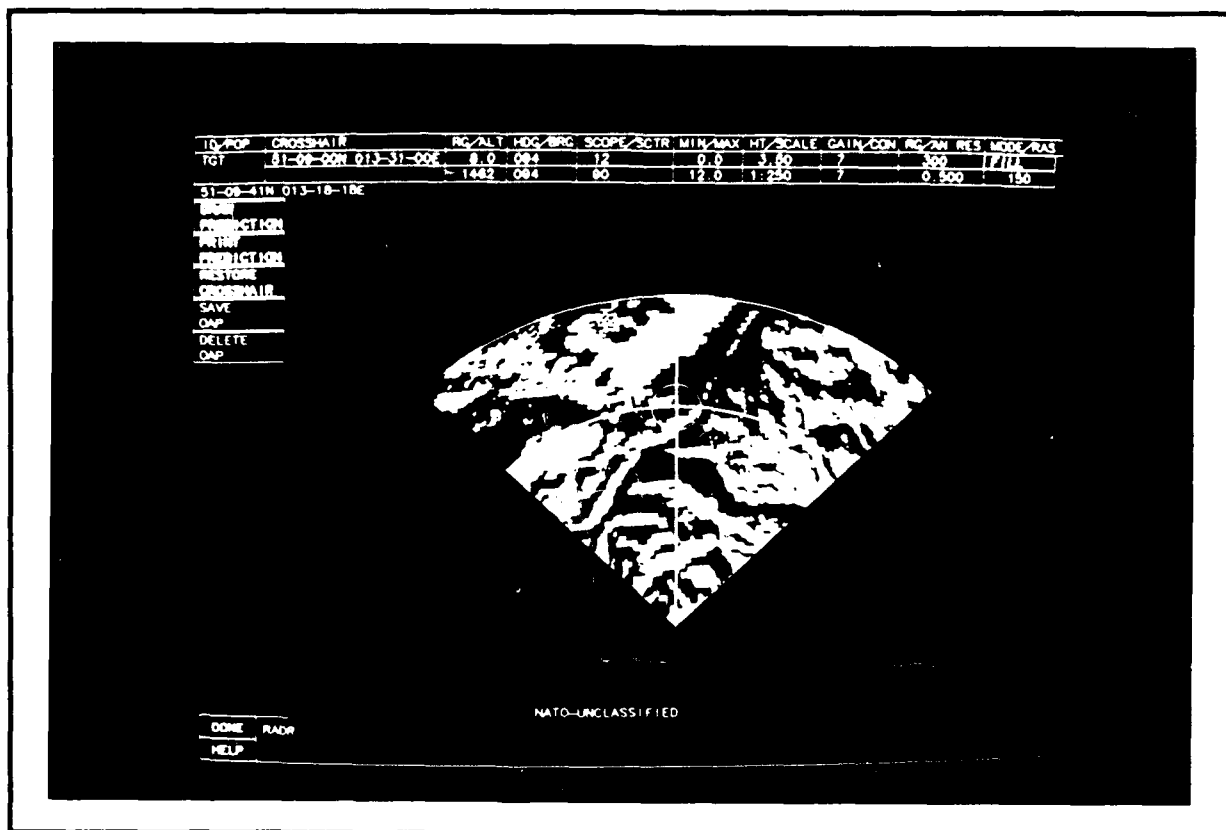

Figure II.2-3 Radar Prediction (RADR) Menu
20. Draw a radar prediction. Position the cursor on the DRAW PREDICTION command box and click the mouse. The radar prediction will then be calculated and displayed (Figure II.2-3).